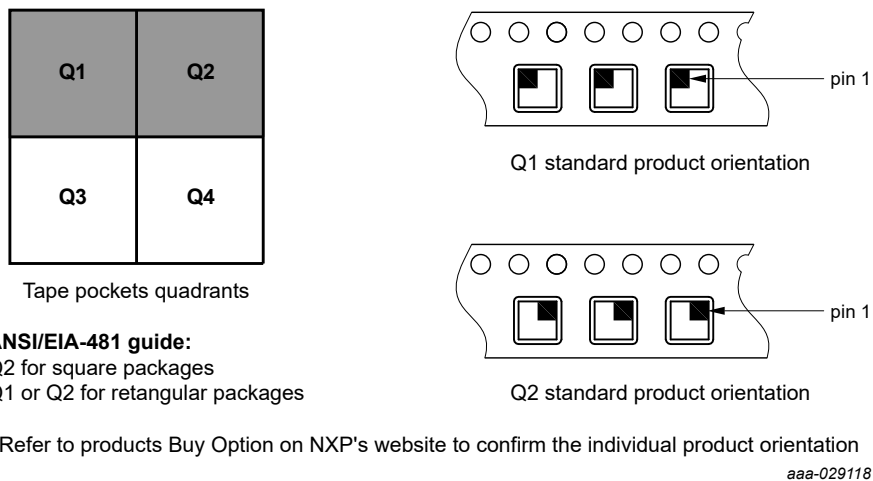

Figure 50. Product orientation in carrier tape
- The product pin 1 orientation in the carrier tape (Figure 50) follows the orientation guide of ANSI/EIA-481 standard, but exceptions are possible depending on the product characteristics. Refer to the Buy Options on NXP's website to confirm the individual product orientation.